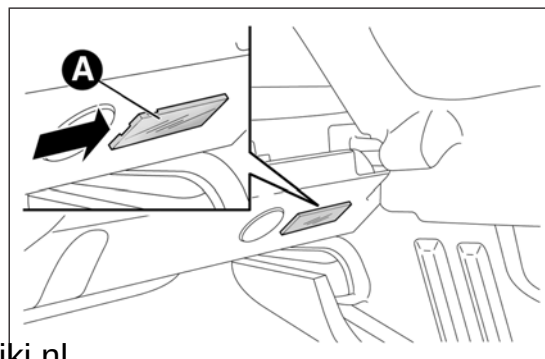

fig. 142
- ❑ open the luggage compartment and extract the roof light A fig. 142 working in the point shown by the arrow;
- ❑ refit the roof light A fig. 142 by inserting it in its correct position firstly on one side and then pressing on the other until it clicks into place.